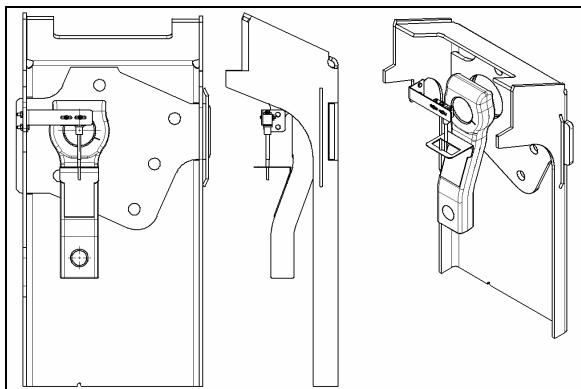

FIGURE 17: TAG AXLE UNLOADING SWITCH
2. Line up switch lever with reference to the bracket center (Refer to figure 17).